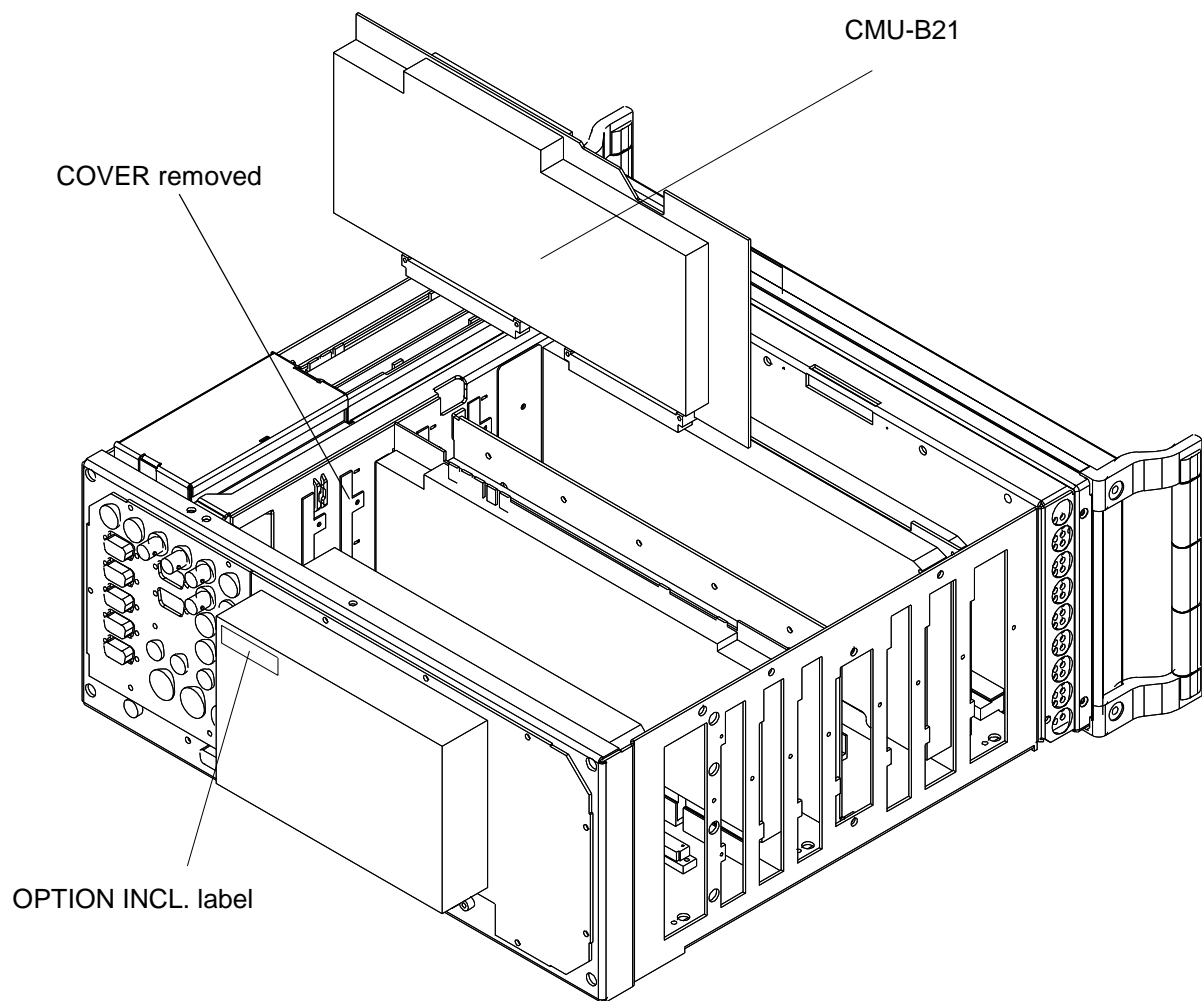

Fig. 3
- 2.1 Remove cover on the vent in the intermediate panel of the 7th slot as seen from the front (Fig. 3).